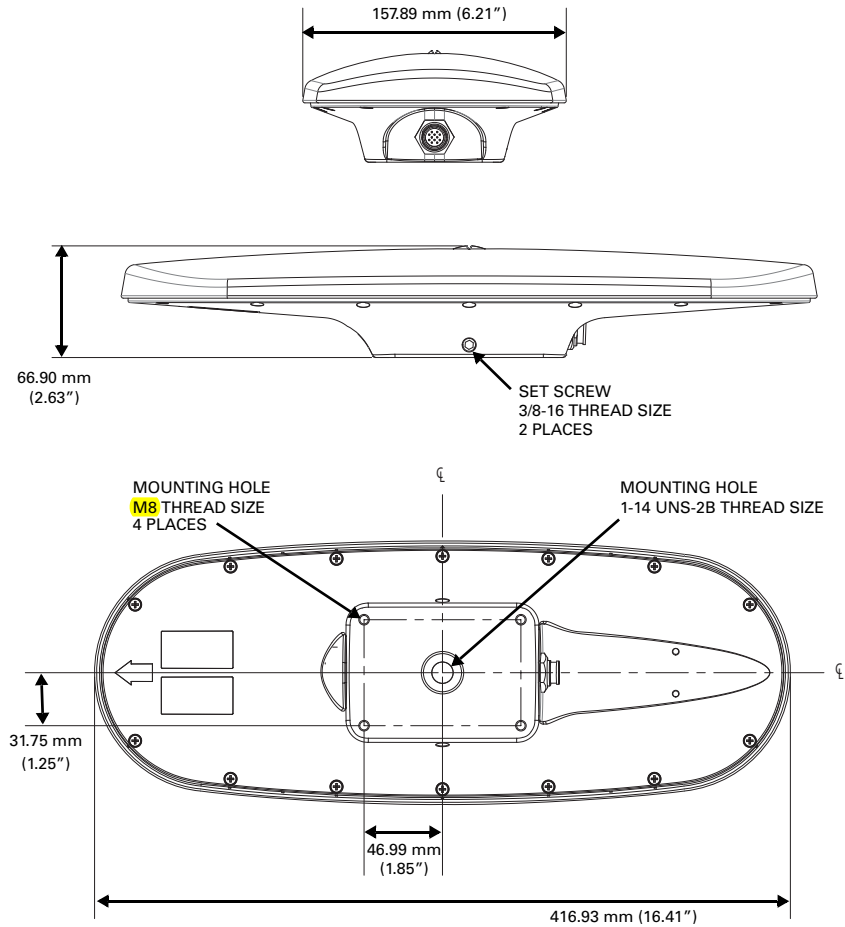

Figure 2-6: MV102 dimensions
- Flush mount - The bottom of the MV102 contains four M8 holes for flush mounting the unit to a flat surface (see Figure 2-6 on page 13).
- Pole mount - The bottom of the MV102 contains a mounting hole (1" thread, 0.9" depth) for easy pole mounting. Hand tighten until snug (do not overtighten). The set screws on the long sides of the base (see middle drawing in Figure 2-6 on page 13) allow you to secure the MV102 in place (3/16" Allen wrench not included).
Figure 2-6 illustrates the physical dimensions of the MV102.
- Use the set screws on the long sides of the base (see Figure 2-6) to secure the MV102 in place (3/16" Allen wrench not included)